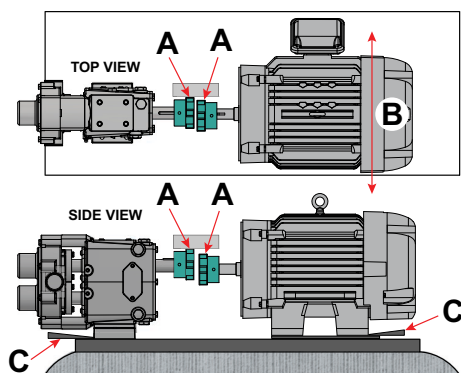

Figure 20 - Check Parallel Alignment
2. Using a feeler gauge at location “A” in Figure 20, determine the direction and amount of movement needed (Figure 20, item B).